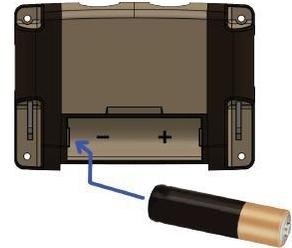

Figure 1 - Insert Battery
Insert a 1.5V AA battery into the battery compartment located on the back of the unit. The battery compartment can be opened by pulling outward from the indentation on back of the device. The battery should be replaced with the negative side (-) pressed upon the battery contact containing a spring (see Figure 1). Close the battery compartment door to secure the battery. A fresh alkaline battery should power the device for at least 8 hours of continuous use.
1. Insert a finger (preferably the index, middle, or ring finger) into the Adult Articulated Finger Clip Sensor (Figure 1) until the end of the finger reaches the finger stop. Keep the fingernail facing the sensor top (as shown in Figure 1). Ensure that long fingernails do not interfere with proper finger position.